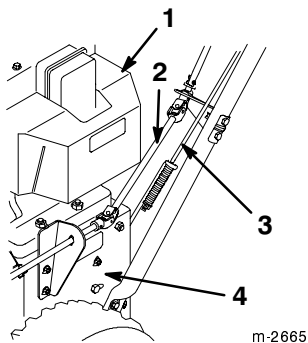

Figure 4
IMPORTANT: Make sure that the chute control rod assembly is between the engine and the traction rod (Fig. 4).
4. Position the left handle against the left side of the snowthrower, and align the handle mount holes with holes in the side plate (Fig. 4).